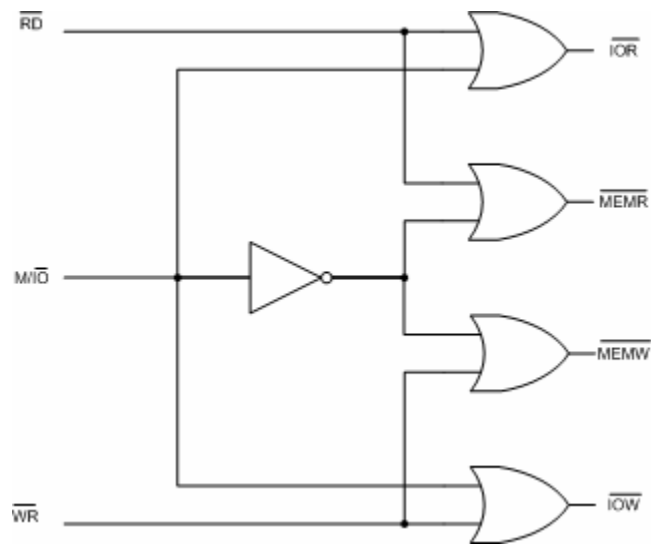

Figure 3.1: Generating the four memory and I/O control bus signals from the 8086's  $\overline{RD}$ ,  $\overline{WR}$  and  $M/\overline{IO}$  signals.
3. Implement the decoder shown in Figure 3.1 which takes as input  $\overline{RD}$ ,  $\overline{WR}$  and  $M/\overline{IO}$ , and produces *memory read* ( $\overline{MEMR}$ ), *memory write* ( $\overline{MEMW}$ ), *I/O read* ( $\overline{IOR}$ ) and *I/O write* ( $\overline{IOW}$ ) signals.